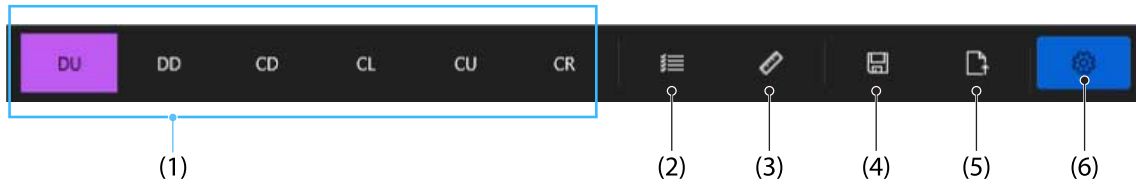

FIG. 6-3 - Accuracy Motion (Control bar)
The control bar (see FIG. 6-3) allows you to make a simple measurement by selecting a position.
A measurement cannot be performed without parameters. When a device is connected, a set of default parameter, defined in the parameters tab, will be used. If no default parameters are set in the parameters tab, the application will use the "built-in" parameters instead. . You can view these parameters by clicking on the **Device parameters** button (6) located in the **Control bar** (voir FIG. 6-3).
The **Measurement saving** button (4) of the **Control bar** (see FIG. 6-3) enables you to save the measurement that has just been made.